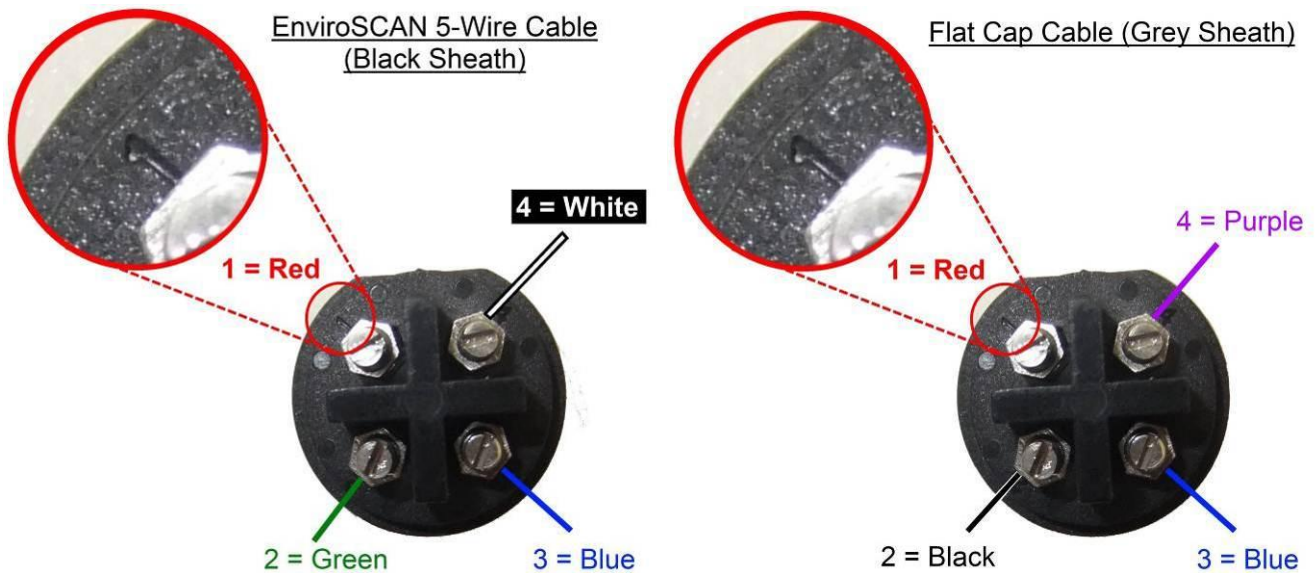

Figure 21 Contact insert screw terminals
- e) One-by-one, insert each of the four wires into the Contact Insert Screw Terminals and screw them in. Use *Figure 21* to determine correct wiring order.